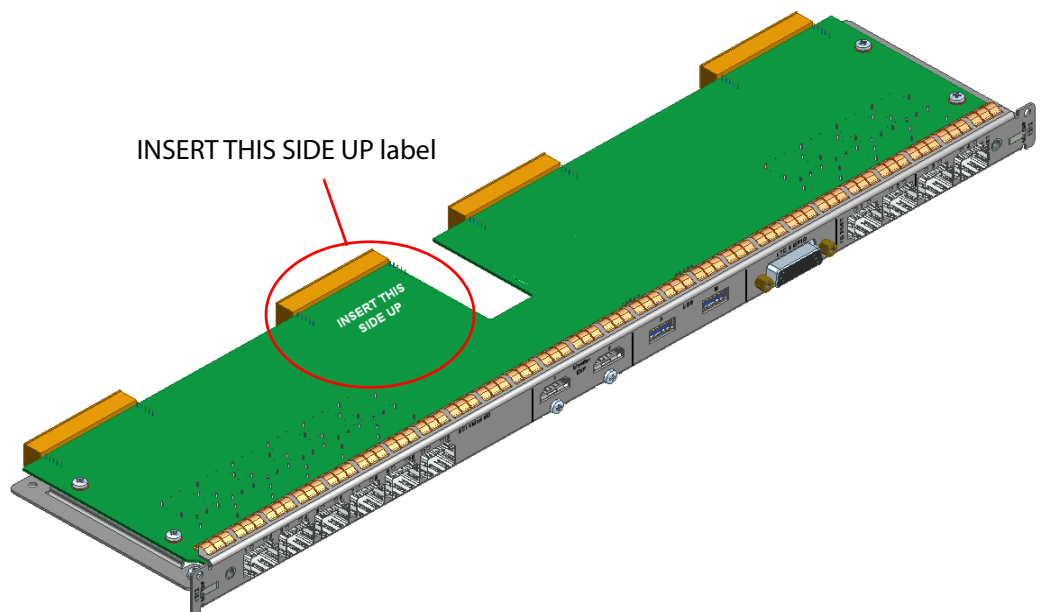

Figure 20 1312 MV-800 Rear panel module, showing "INSERT THIS SIDE UP" label.
2. **Rear Slot (2):** Insert a 1312 MV-800 Rear Panel module into rear Slot (2). Check the orientation of the rear module, see Figure 20.
Ensure the 1312 MV-800 Rear Panel module is the correct way up, "INSERT THIS SIDE UP" label is printed on the top of the rear panel, see Figure 20.